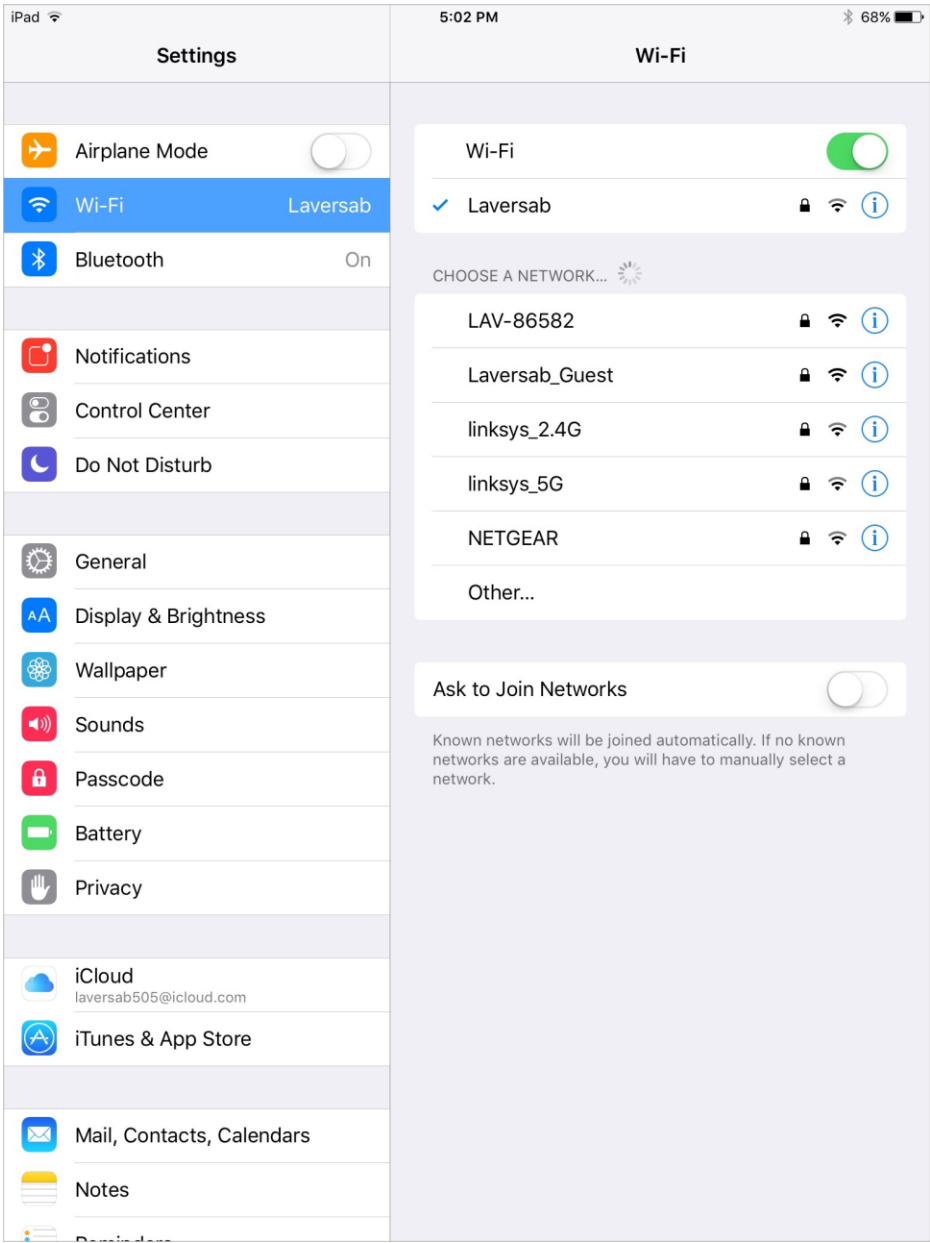

Figure E.1
- On the iPad select the 'Settings' icon. Then select the Wi-Fi section. (See Figure E.1 below). The right side will show all the Wi-Fi networks available. One of the networks will be labeled "LAV-xxxxx", where 'xxxxx' is the serial number of the tester you want to connect to.